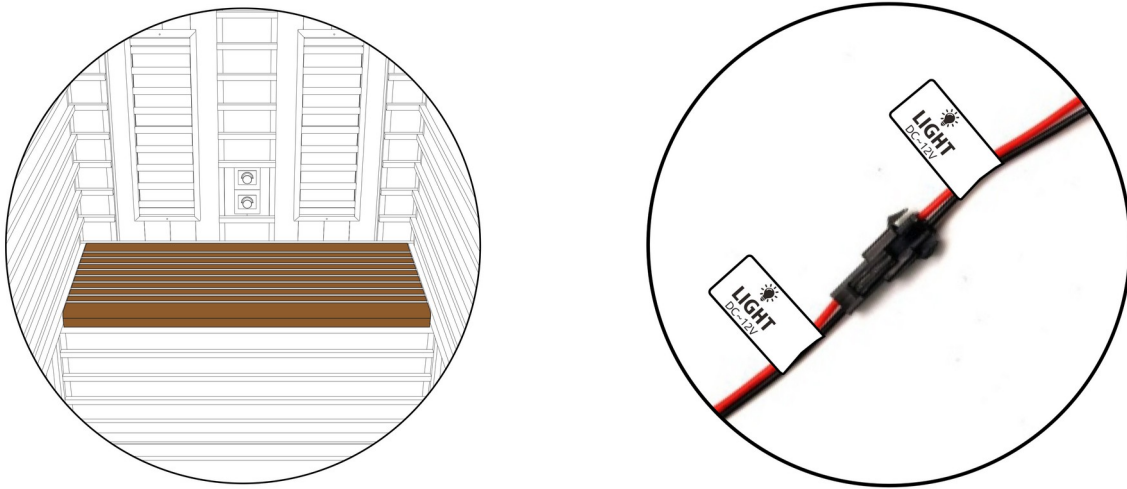

Figure 14. Left: the Seat Panel in place on the supports. Right: the LED light cable connectors marked LIGHT.
- Place the Seat Panel into position on the supports (Figure 14, left).
- Connect the LED light cable for the Seat Panel: join the two flat connectors marked LIGHT until they click (Figure 14, right).